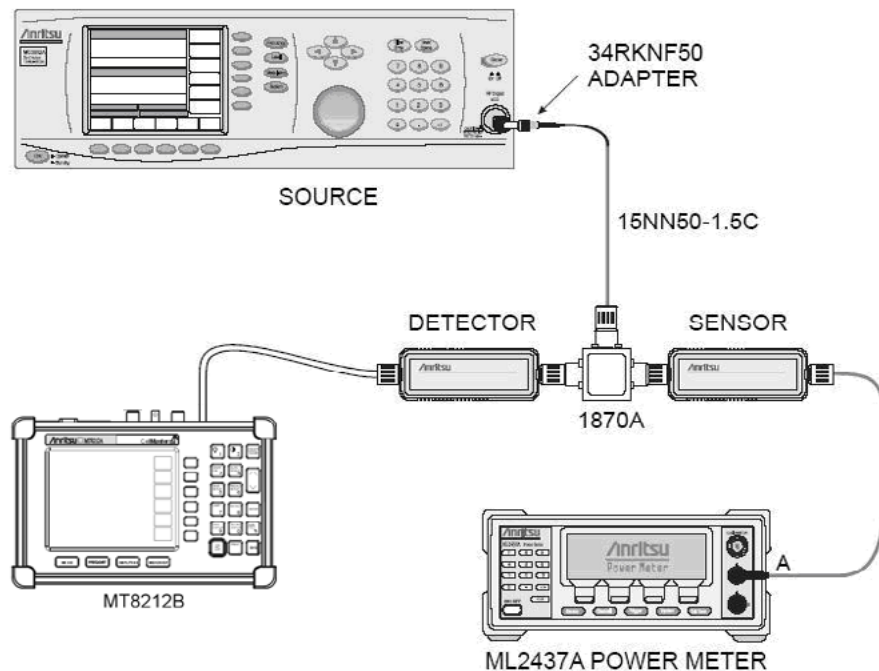

Figure 3-6. Option 5 Test Setup
4. Connect MG3691B, power meter, 560-7N50B detector, power splitter and power sensor as shown in Figure 3-6.